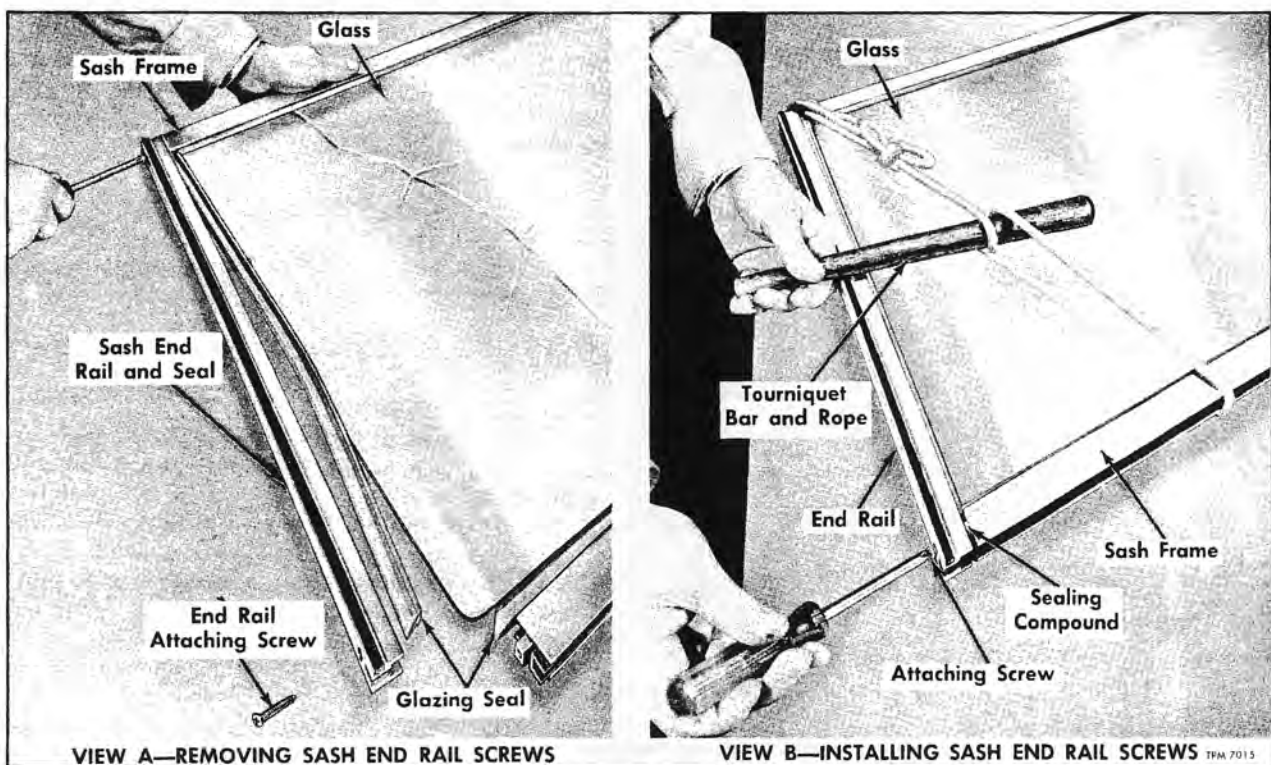

Figure 10—Replacing Sliding Section Glass
5. To disassemble sash and glass sections remove screw (View A, fig. 10) at upper and lower end of section vertical-slanting end rail. Remove end rail, then carefully remove broken glass and glazing rubber from sash.
3. Using a strong cord as a tourniquet to press sides of frame into position as shown in View B, figure 10, install vertical-slanting end rail to sash with attaching screws.